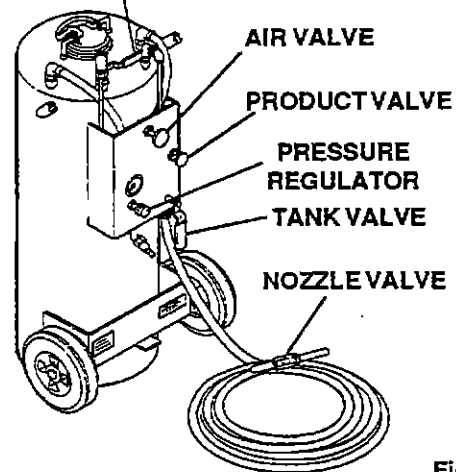

Figure 4
1. Foam by opening the tank valve and then the nozzle valve, refer to Figure 4.
2. Foam consistency can be made wetter or dryer by adjusting the air and/or product needle valves, refer to Figure 4.
3. Relieve the tank and hose pressure when not in use by opening the pressure relief and hose valves, refer to Figure 4.